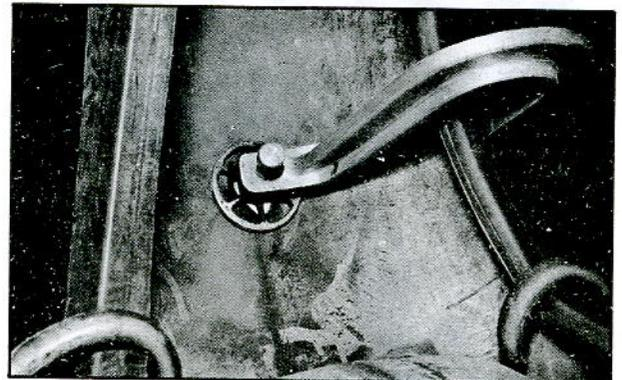

Fig. 10—Using Hot Patch Clamp
7. Carefully center hot patch over injury and hold in place using special hot patch clamp. Tighten clamp, maximum finger tight. (See Figure 10.)